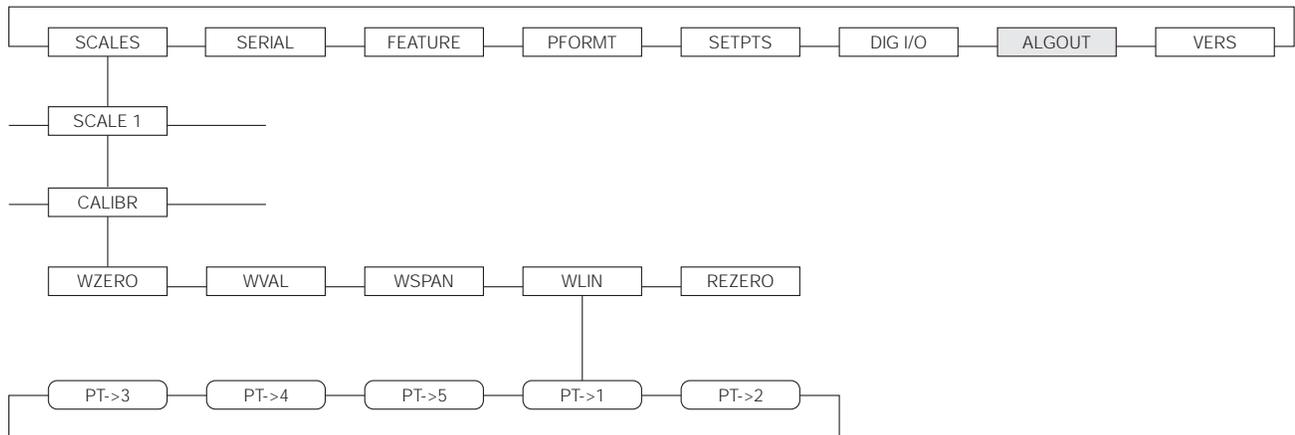
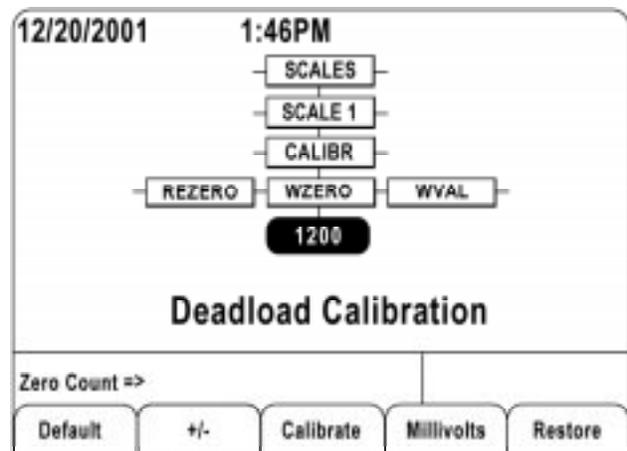

Figure 4-1. Calibration (CALIBR) Submenu
Figure 4-2. WZERO Calibration Display
The CALIBR submenu (under the SCALES menu, see Figure 4-2) is used to calibrate the *920i*. The zero, span, and linear calibration point displays provide a set of softkeys used specifically for calibration procedures:
2. With the *SCALES* menu highlighted, press the down key, then select the scale to be calibrated. Press down again (*GRADS* parameter highlighted), then press left to highlight the *CALIBR* submenu (see Figure 4-1). Press down to go to zero calibration (*WZERO*). See Figure 4-2 on page 46.